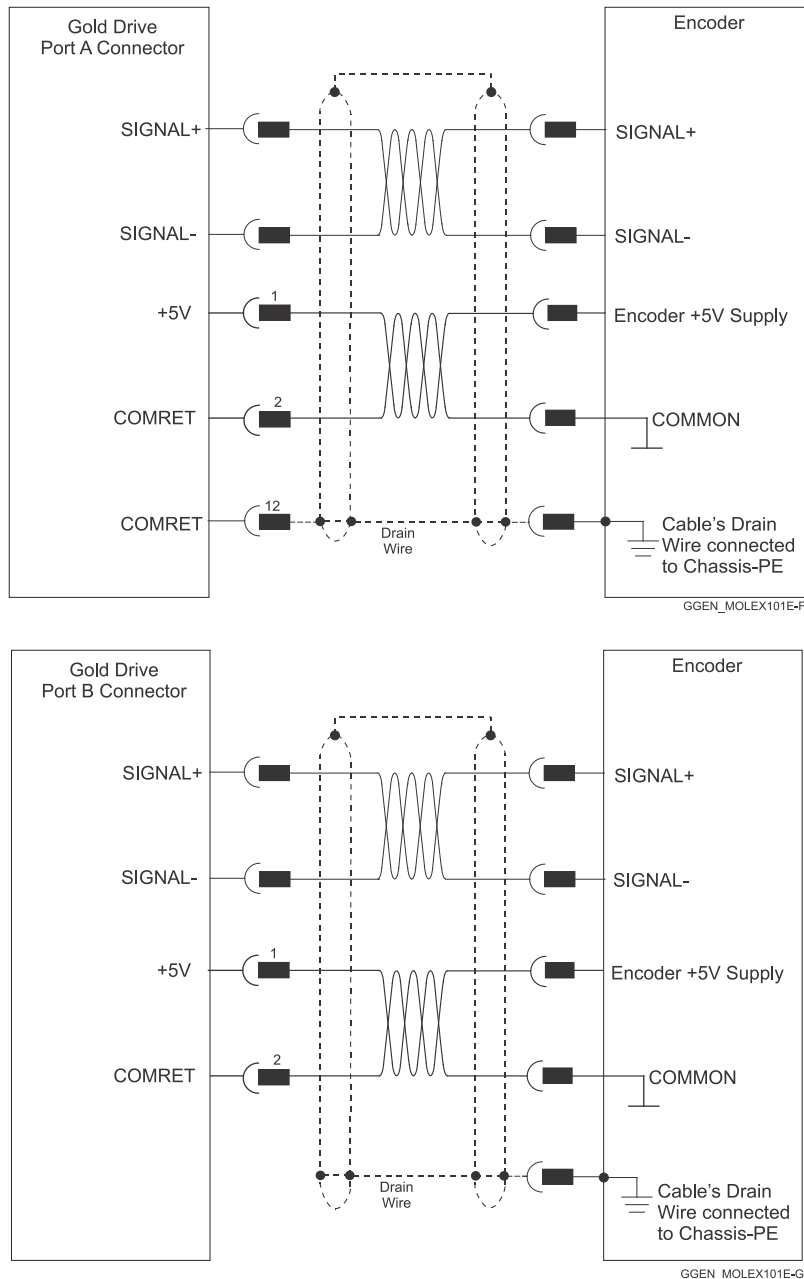

Figure 6: Feedback Port A and B Cable Assemblies
- b. At the motor, connect the feedback cable drain wire to the GND motor chassis terminal of the feedback connector (Figure 6).